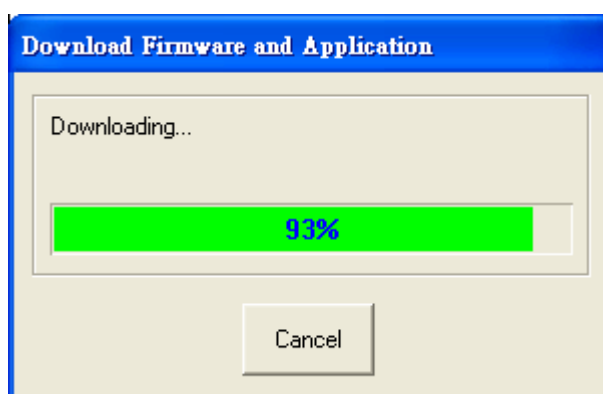

Figure 188. Download Firmware and Application
- Download the ADP file to HMI. First, select [Download Application] on HMI, then select [Application]/ [Download Firmware and Application] in ADP. The dialog box will be appeared as below in ADP. See Figure 188.